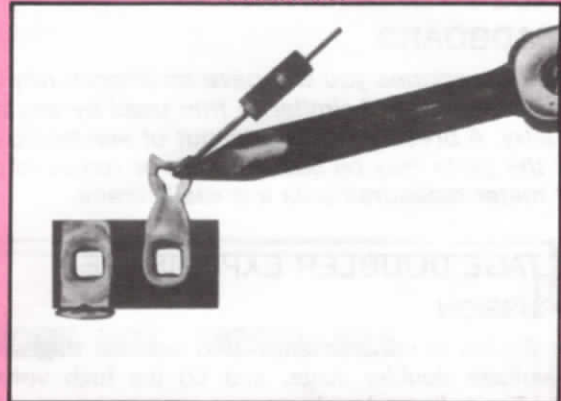

FIG. 6
7. Position the flat side of the soldering iron firmly against the wire lead and terminal to preheat the metal parts to be soldered. (See Fig. 6.) **CAUTION: When soldering semiconductors, such as transistors, use a heat sink to prevent damage to these heat-sensitive devices.**